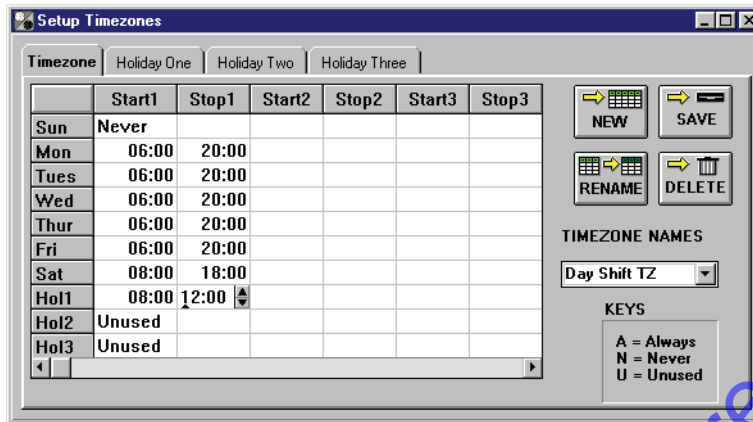

Figure 3-3: Day-Shift Time Zone Example
NOTE: When you double-click in a cell, a spinner icon appears (see Figure 3-3 on page 6 of this section). If you click on the hour side of the time (00:00), you can use the spinner to advance the hours forward or backward and select a desired hour. If you click on the minute side of the time (00:00), you can use the spinner to advance the minutes forward or backward and select a desired minute. You may decide to use this method to set the time instead of directly typing the information into a cell.
- Click in the “Timezone Names” field and type **Day Shift TZ**. The Setup Timezones window should appear identical to Figure 3-3. Any discrepancies can be corrected by clicking on the cell or field and making the correction.